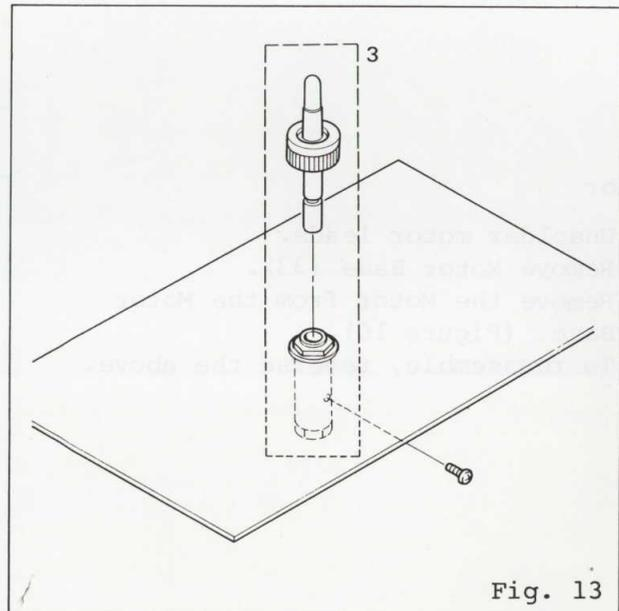

Fig. 13
The Center Spindle can be removed after removing the Back Plate and loosening the screw shown in Fig. 13.
- Yes: Replace the Ratchet or the Pinion Gear (center spindle). (Figure 13)